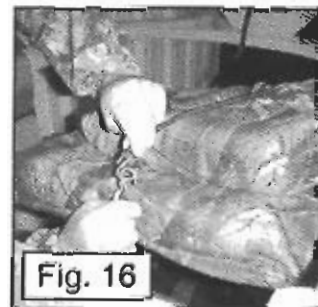

Fig. 16
Step 2. Disconnect the elastic cord that has been holding the Python XLS or Revolution Seat in place and fold the seat backrest down. Secure the backrest and seat as shown in **Figure 16**.